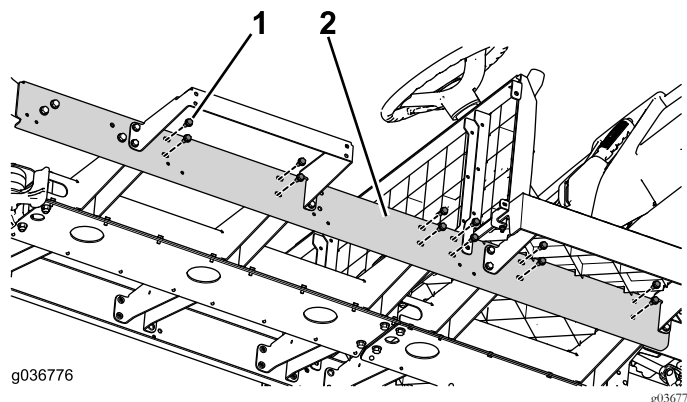

Figura 31
7. Instale as ferragens restantes do canal (Figura 31).